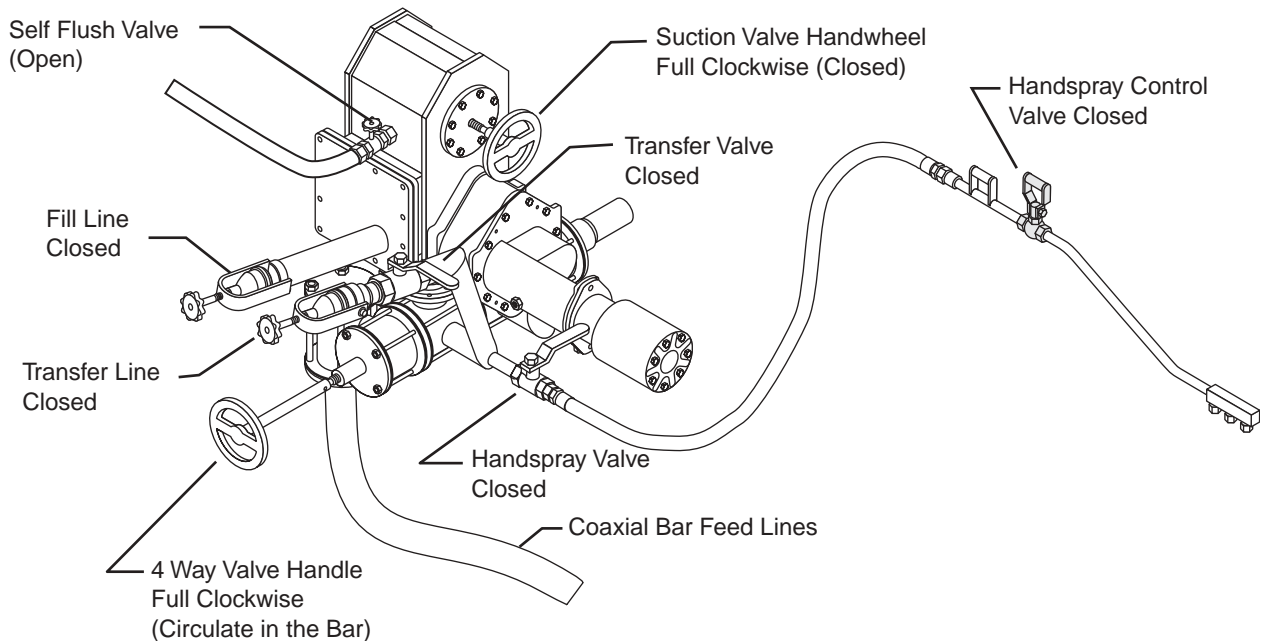

Figure 13. Valve Positions for Flushing Operations
1. Set all of the valve positions (see Figure 13).